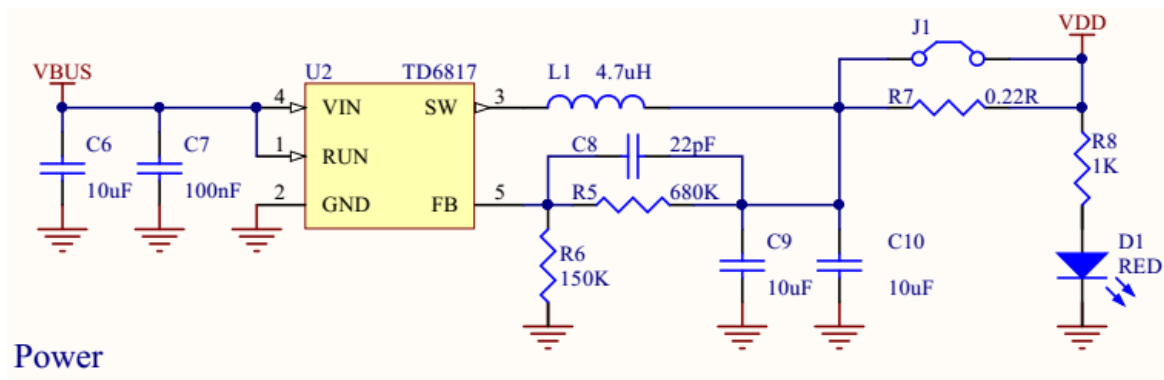

Figure 14 Power reference circuit
- Please according to the SMT reflow soldering curve, peak temperature 245°C , reflow soldering, temperature curve as shown in figure 14, section 7.6;